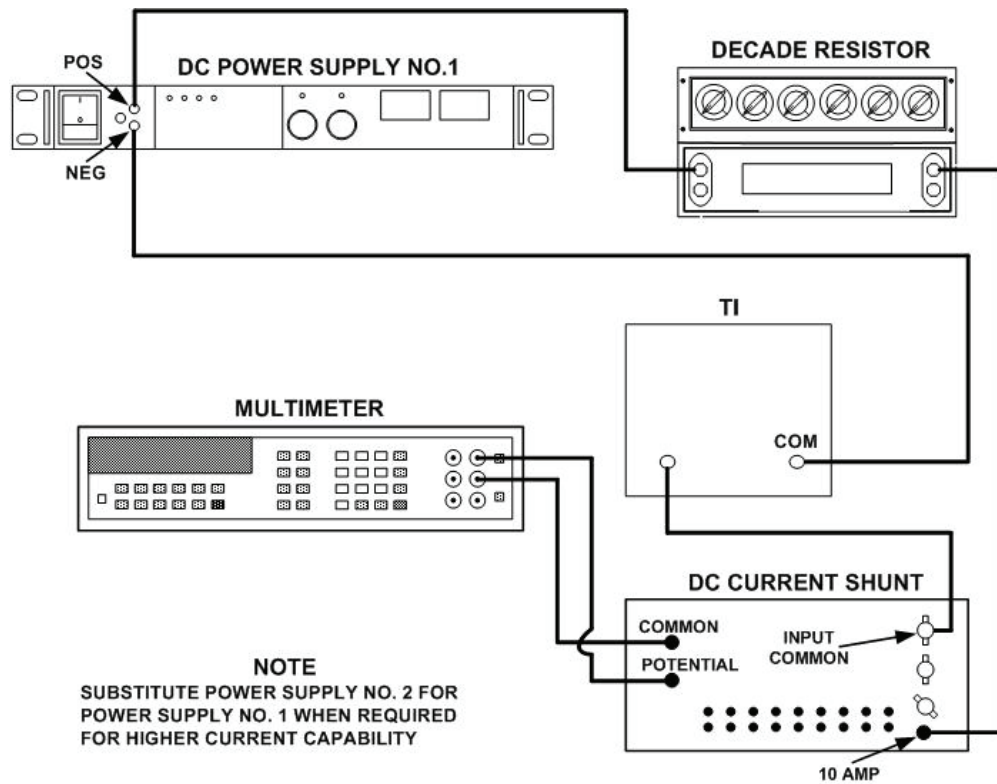

Figure 1. Dc current - equipment setup.
- (1) Set TI function switch (if applicable) to dc amps and set range switch to lowest range.
- (2) Connect equipment as shown in figure 1.